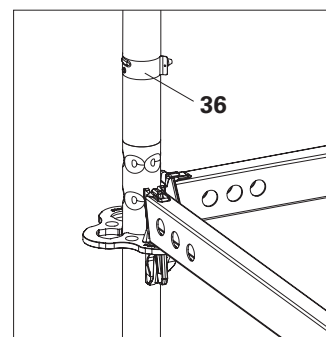

Fig. A4.01a
3. If relocation by crane is envisaged, connect all verticals with locking pins D48/D57 (**36**) so that they are tension-proof. (Fig. A4.01a)